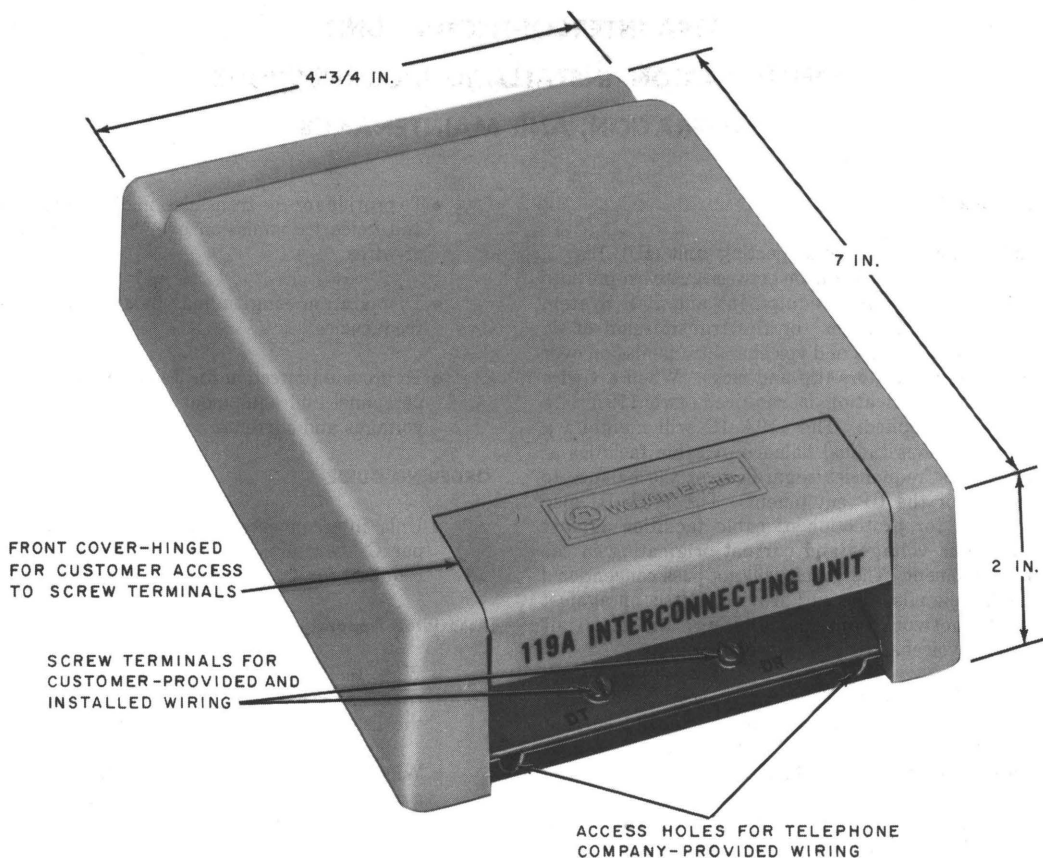

Fig. 1—119A Interconnecting Unit
1.01 The 119A interconnecting unit (IU), Fig. 1, provides a connection between customer-provided (CP) 2-wire terminal equipment and Bell System 2-wire cable facilities for the transmission of dc supervisory signals and voiceband transmission over the same conductors (tip and ring). When a 4-wire to 4-wire application is required, two 119A IUs must be supplied. The 119A IU will maintain a degree of longitudinal balance of cable facilities at voiceband frequencies regardless of the balance to ground of the CP equipment. The 119A IU also provides for protection of cable facilities against hazardous voltages and current originating in the CP equipment. The circuit will not pass conventional ringing signals, does not provide protection against faulty network control signaling, and does not provide voiceband signal power limiting.
- Size—approximately 4 3/4 by 7 by 2 inches (See Fig. 1.)